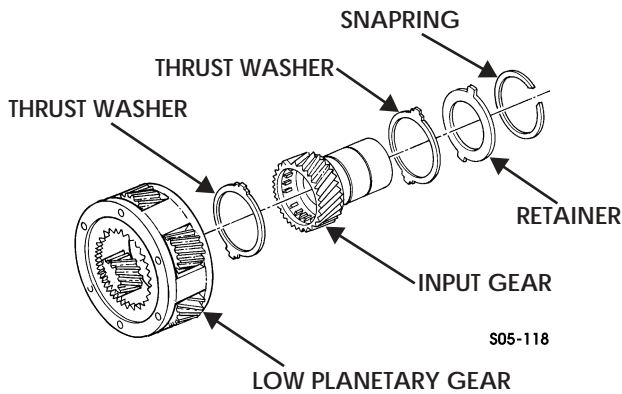

Figure 5-171: Input Gear
1. Install thrust washer, input gear, thrust washer, and retainer into low planetary gear. Secure with snapping. Ensure snapping is completely seated in groove of low planetary gear (Figure 5-171).